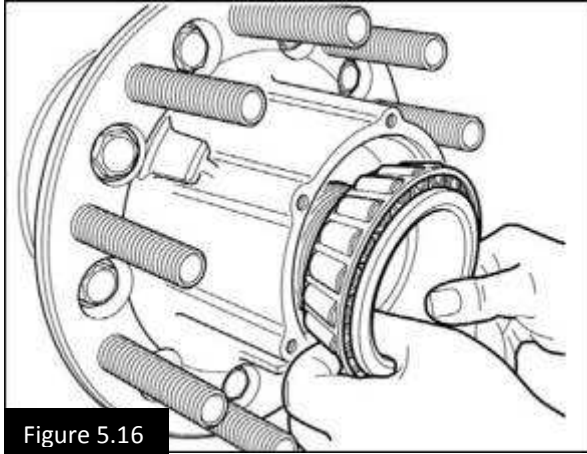

Figure 5.16
6. Push the hub assembly onto the axle spindle. Push the assembly fully onto the spindle taking care not to damage the oil seal or spindle threads. Install the Outer Bearing to the Hub assembly. Figure 5.16.